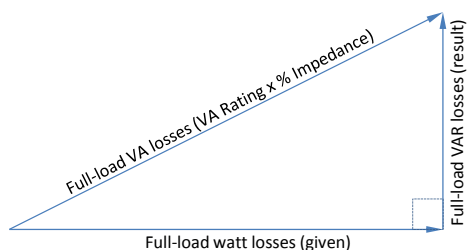

Figure 10. Deriving Full-load-VAR-Losses.
The rated full-load-VAR-losses are *not* given in the transformer's datasheet as watt-losses are. They must be derived. That is done by solving the "power triangle" for VAR-losses where the watt-losses and the VA-losses are known. Watt-losses, (1) in Table 1, are given in the transformer's datasheet. VA-losses are the product of the transformer's VA rating, (5) in Table 1, times the percent impedance, (3) in Table 1. This is illustrated in Figure 10, below.